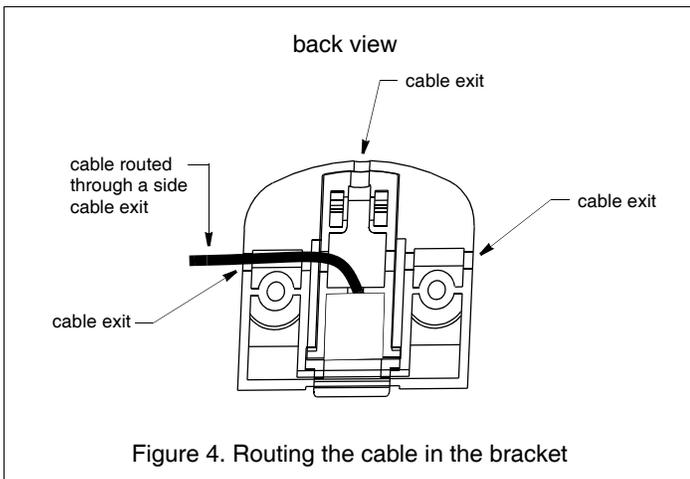

Figure 4. Routing the cable in the bracket
3. There are three possible cable exits in the back of the bracket: left, center, and right (see Figure 4). Choose the best cable exit for your installation and route the cable through the notches in the back of the bracket.